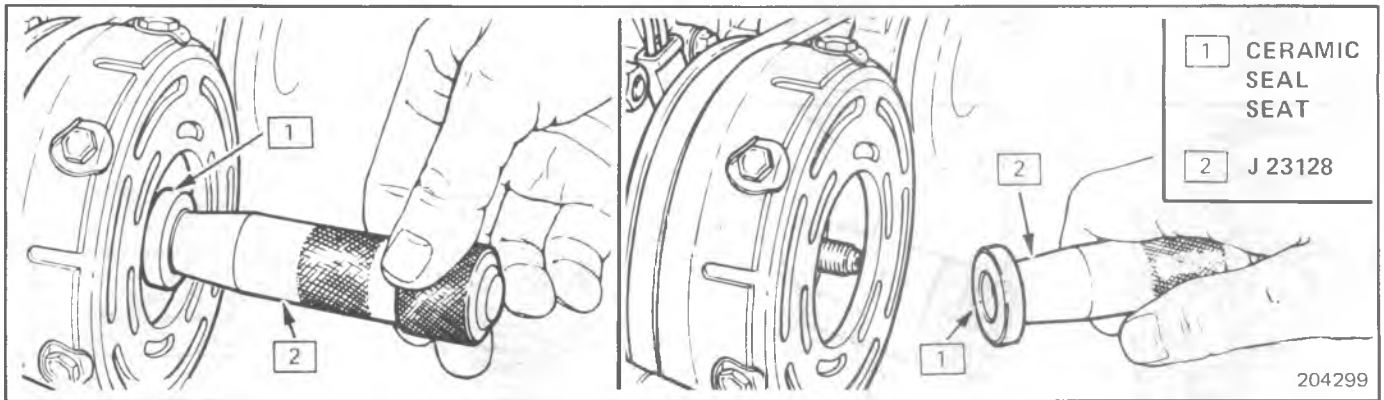

Fig.1C1-26 Removing and Installing Ceramic Seal Seat (On Car)
6. Place Seal Protector J 22974 over the end of the shaft to prevent chipping the ceramic seat. Fully engage the knurled tangs of Seal Seat Remover-Installer J 23128 into the recessed portion of the seal seat by turning the handle clockwise. Remove the Seal Seat from the compressor with a rotary-pulling motion (Fig. 1C1-26). Discard the Seat. The handle must be hand-tightened securely. Do not use a wrench or plier.
tangs with the tabs on the Seal assembly. Then lift the Shaft Seal assembly out (see Fig. 1C1-27). Discard the Seal.
8. Remove and discard the seal seat O-ring from the compressor, neck using O-Ring Remover J 9553 (Fig. 1C1-27).
Seals should not be re-used. Always use a new specification service seal kit on rebuild (see Fig. 1C1-28). Be extremely careful that the face of the Seal to be installed is not scratched or damaged in any way. Make sure that the Seal Seat and Seal are free of lint and dirt that could damage the seal surface or prevent sealing.
1. Dip the new seal seat O-ring in clean 525 viscosity refrigerant oil and assemble onto O-Ring Installer J 21508 (see Fig. 1C1-27).